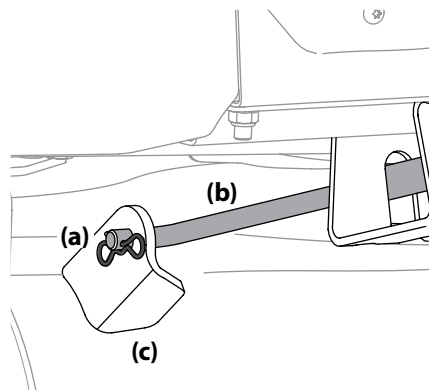

Figure 4-16
9. Pull the cotter pin (a) out of the front deck lift rod (b) securing it to the deck. See Figure 4-16. Slide the deck lift rod out of the front hanger bracket (c).
6. Reinstall the front deck lift rod and secure in place with the cotter pin. Refer to Figure 4-16.